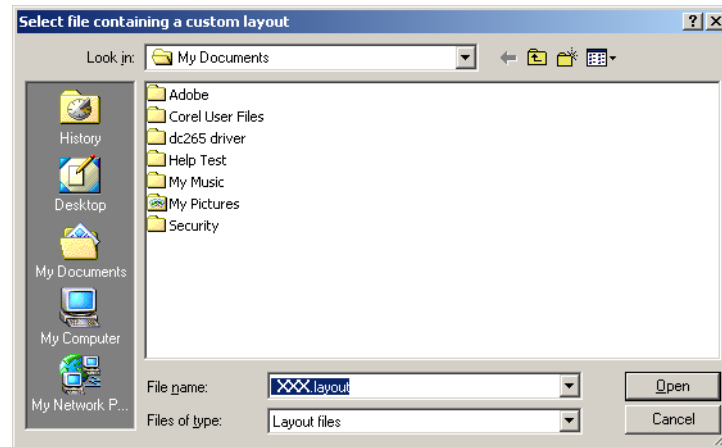

Figure 31 Load Custom Form Layout Dialogue Box
3. A Dialogue Box will appear as in Figure 31.